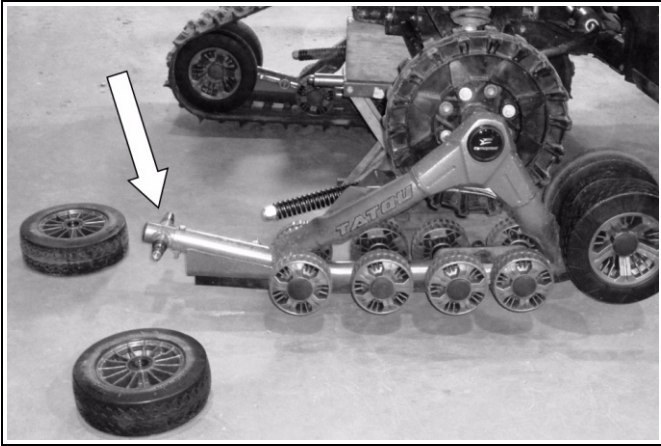

Figure 19
- Remove the two 255 mm wheels opposite to the track tensioner side (refer to Figure 19).